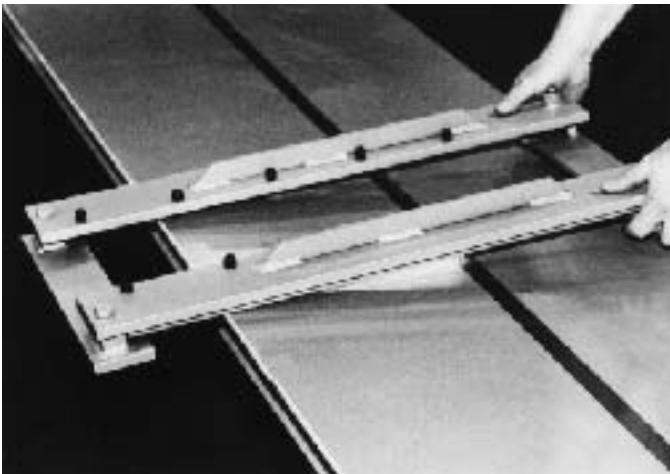

Figure 1
1. Position clamp mounts on top of mainframe directly below the ends of the vehicle's rocker panels. The mounts must be installed as shown in Figure 1.